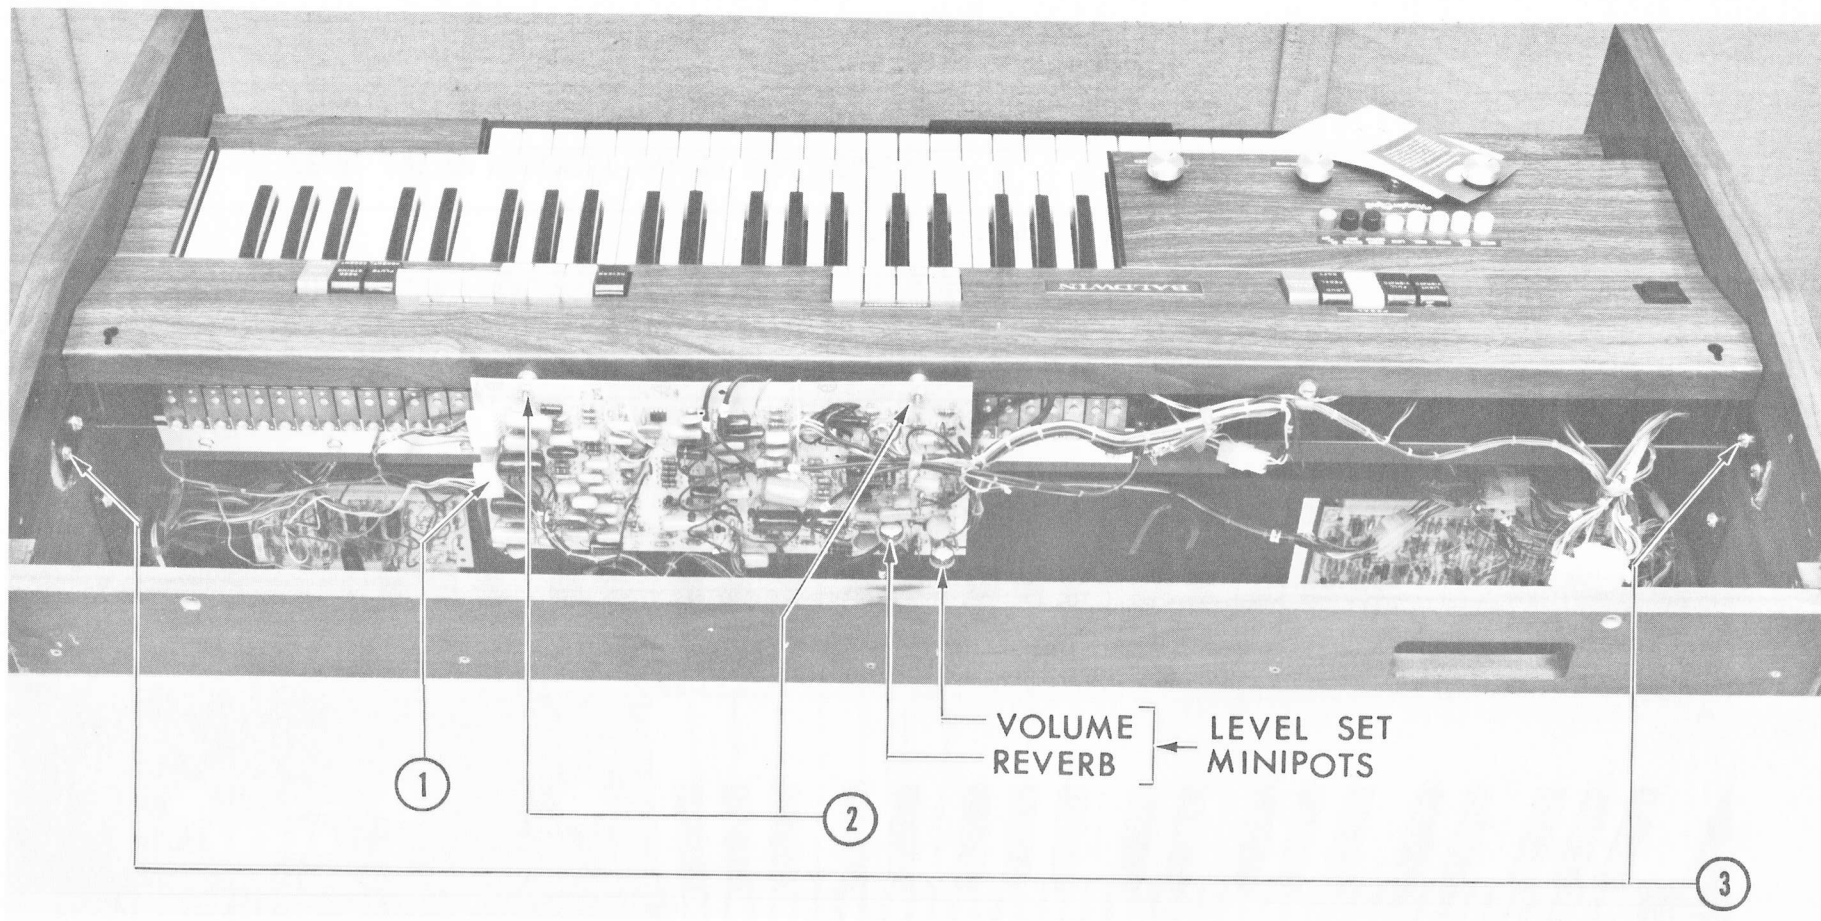

FIG. 42 - N124 ORGAN TOP VIEW
3. Reverb and Volume Level set controls are relocated to the Tone Color Board Assembly (See Fig. 42).
7. For Tone Color Disassembly procedure for N124 series, refer to Fig. 42.